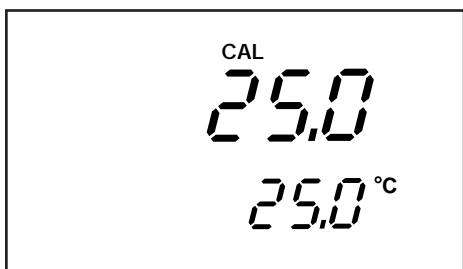

Figure 17
3. While the pH calibration mode, press the **MODE** key to enter temperature calibration mode. The primary display shows the current temperature setting and the secondary display shows the default value 25°C (if the meter has never been manually set for temperature) or the last manually set value if the meter has previously set for manual temperature compensation. If you have not set the current temperature setting the primary display will also show the default value of 25°C. —See Figure 17.